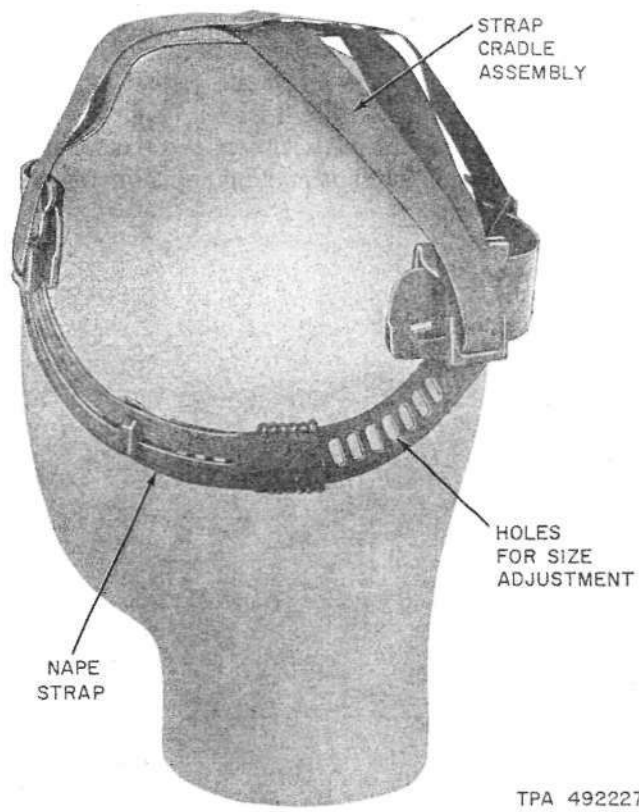
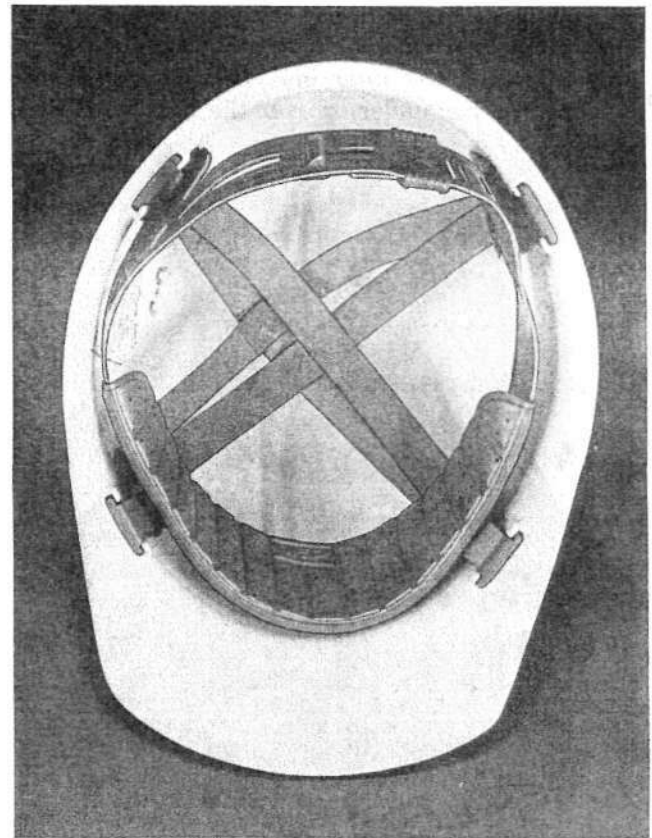

Fig. 2—Suspension for Shockgard Mark II Safety Headgear
Fig. 3—Shockgard Mark II Safety Cap—View Showing Suspension
2.03 The suspension for the Shockgard Mark II safety hat and safety cap consists of ¶an adjustable molded plastic band with a sweatband and straps attached. The straps are in a double-strap arrangement that ensures proper clearance between the top of the head and the inside of the hat or cap crown. A nape strap is provided as an integral part of the suspension. A view of the suspension removed from the headgear to illustrate the size adjustment and nape strap is shown in Fig. 2. A view of the suspension mounted in the cap is shown in Fig. 3.¶